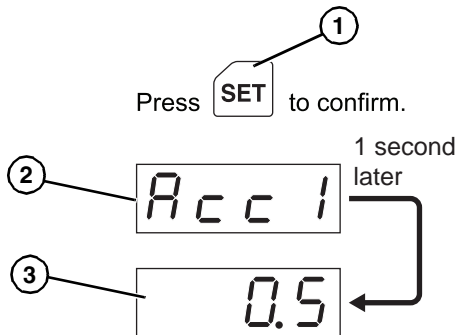

Figure 28
5. After the speed has been changed, press SET (**Figure 28, item 1**) to confirm the new setting. The display will blink and show “Acc1” (**Figure 28, item 2**), after which the acceleration time (**Figure 28, item 3**) will be displayed